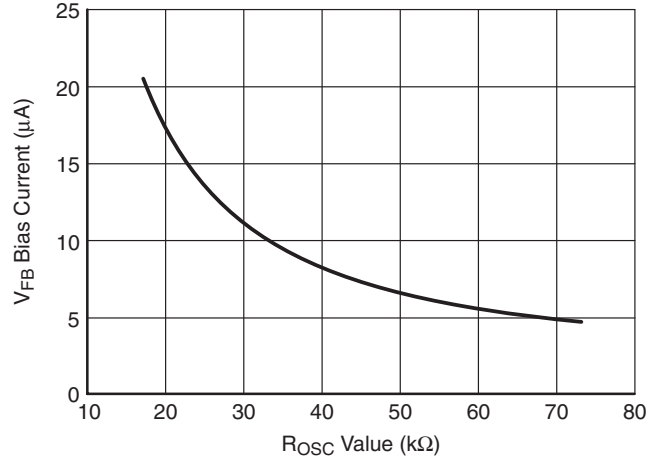

Figure 4. V_{FB} Bias Current vs. R_{OSC} Value
2. The V_{FB} Bias Current changes with the value of R_{OSC} per Figure 4.